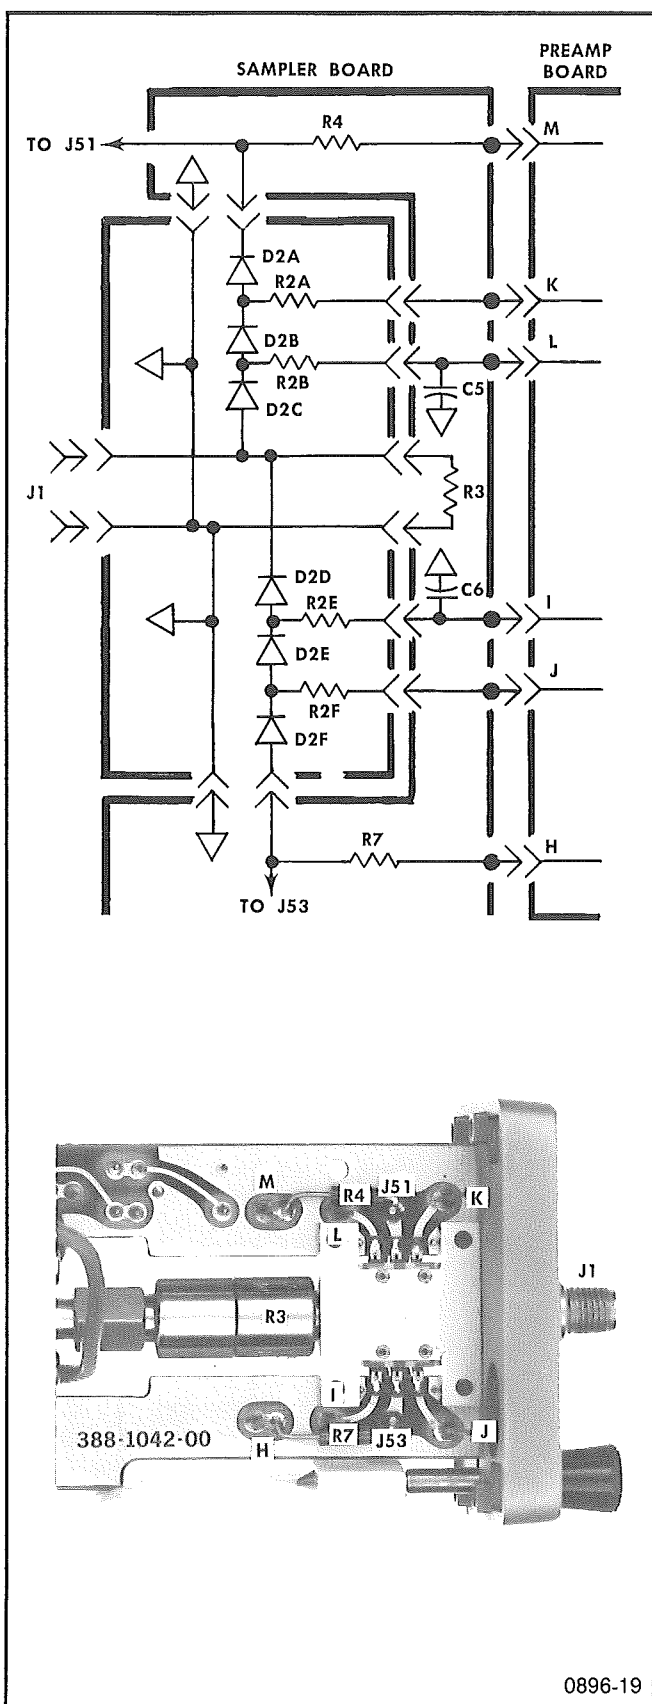

Figure 5-3. Sampling Gate circuit and test points for checking the diodes.
Once you have decided to check the Sampling Gate diodes, refer to Figure 5-3 for both the Sampling Gate circuit and test points used in the procedure listed below. The procedure outlines a method of checking forward conduction in groups of three, and reverse leakage on an individual basis.
2. Refer to Figure 5-3 for testpoints that must be used for checking D2A, D2B and D2C in one group and D2D, D2E and D2F in a second group. For the first group, attach the curve tracer positive lead to J53. Attach the negative lead of the first group to J51. When checking the second group ground the negative lead. These polarity connections test each group of